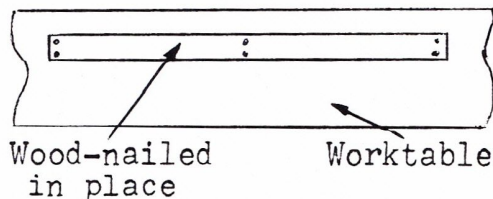
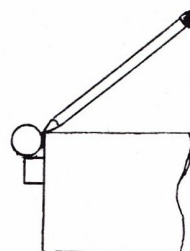

Fig. 3
Fig. 4
5) Attach a scrap piece of lumber to the side of your work table or bench. I used a piece of $\frac{3}{4}$ " plywood 2" wide and about 3' long. This was nailed in place $\frac{3}{8}$ " below the top surface as shown in Fig. 3 to handle tube sizes from $\frac{1}{2}$ " to $1\frac{1}{4}$ ". This is used to mark the centerline on tubes by placing the tube on this ledge and holding against the table as in the side view Fig. 4. Run the ink marker back and forth on the tube at the point where the tube touches the top of the table. Two or three strokes puts on a highly visible permanent centerline.